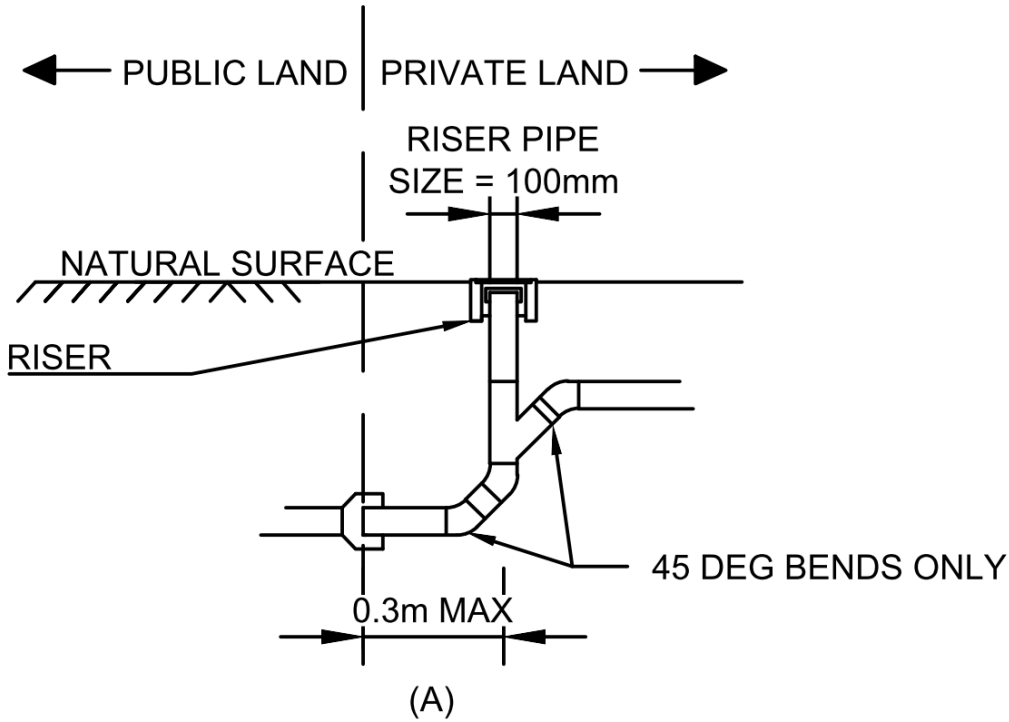
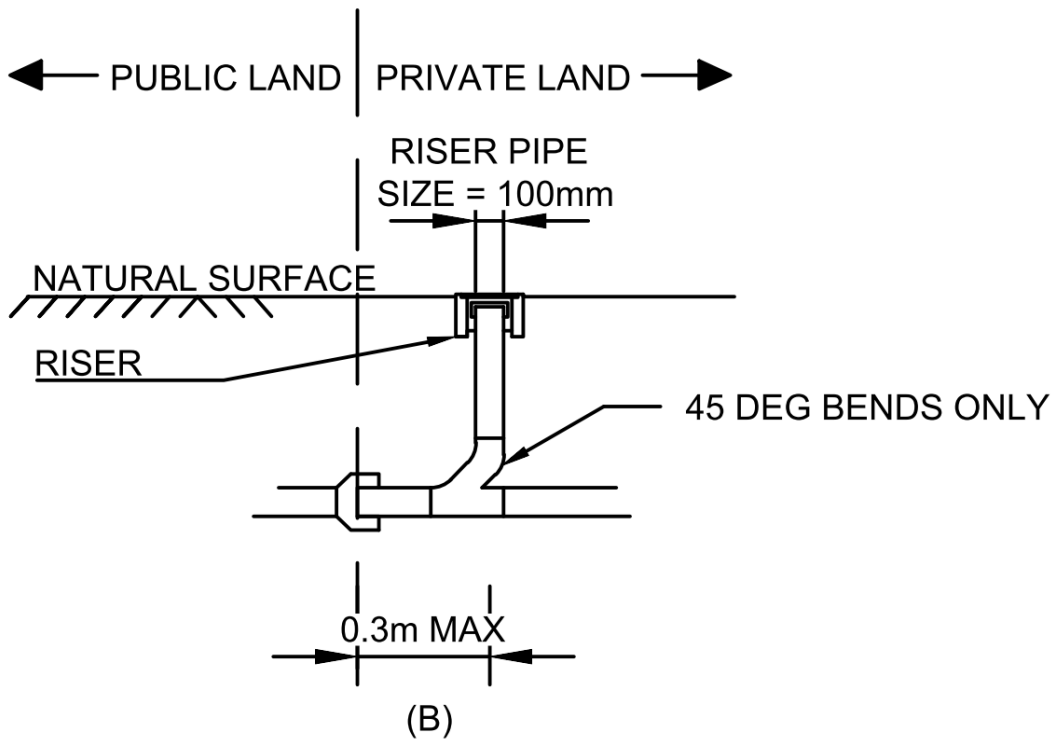

Figure 2 - Riser Installation Diagram A
Figure 3 - Riser Installation Diagram B
3.6 The riser must conform to plumbing standards (AS3500.3 2003), and be of satisfactory quality to warrant reimbursement. See Figure 2 - Riser Installation Diagram A, and Figure 3 - Riser Installation Diagram B, for further specifications of pipe sizes and bend requirements.